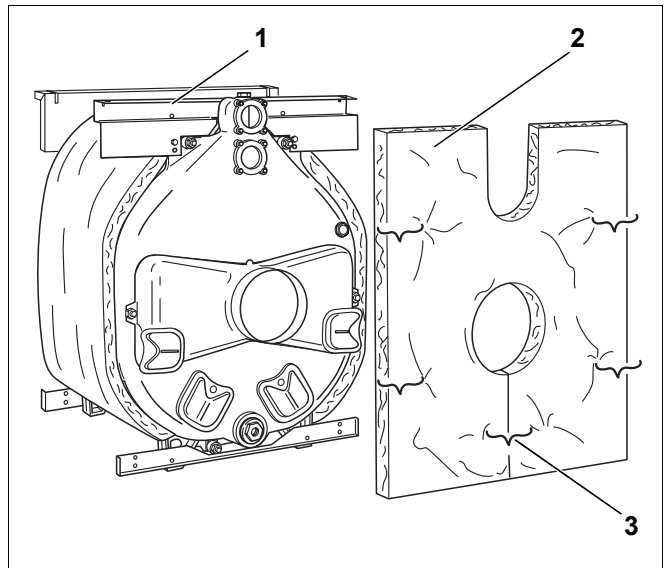

Fig. 33 Installation of thermal insulation at the rear section
- Slide the thermal insulation for the rear section (Fig. 33, **Item 2**) onto the flue gas coupling. Ensure that the cut-out for the boiler flow and return points upwards.
- Hook the thermal insulation for the rear section into the upper cross support bracket using two spring hooks (Fig. 33, **Item 1**).
- Close the gap below the flue gas coupling with spring hooks (Fig. 33, **Item 3**).